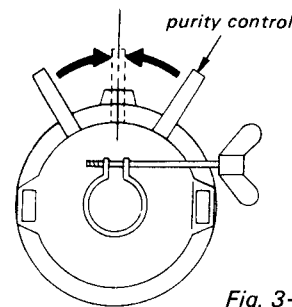

Fig. 3-1.
- Loosen the deflection yoke mounting screw, and set the purity control to the center as shown in Figure 3-1.